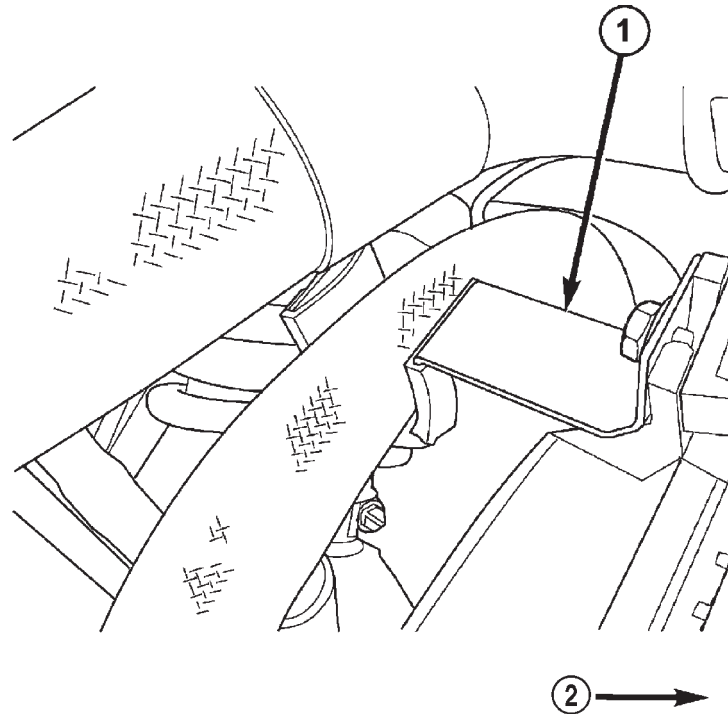

FIGURE 5
9. Install the fan shroud clip (p/n 05278762AA) with the existing left side cooling fan shroud mounting bolt and torque to 7.3 Nm (65 in.lbs) (Figure 5).